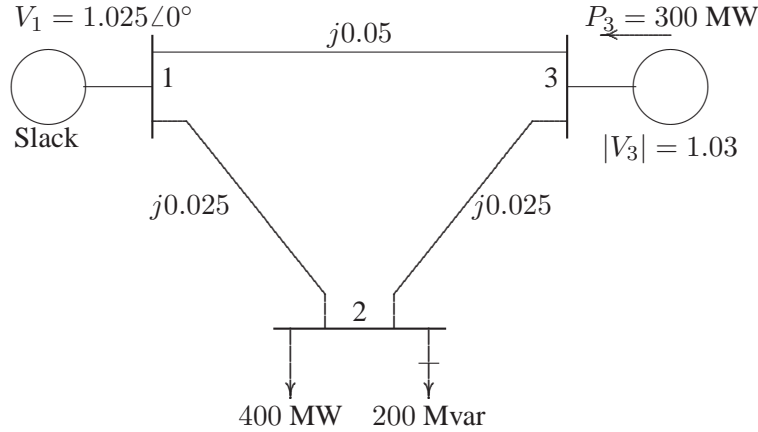

FIGURE 54
6.8. Figure 54 shows the one-line diagram of a simple three-bus power system with generation at buses 1 and 3. The voltage at bus 1 is $V_1 = 1.025\angle 0^\circ$ per unit. Voltage magnitude at bus 3 is fixed at 1.03 pu with a real power generation of 300 MW. A load consisting of 400 MW and 200 Mvar is taken from bus 2. Line impedances are marked in per unit on a 100 MVA base. For the purpose of hand calculations, line resistances and line charging susceptances are neglected.